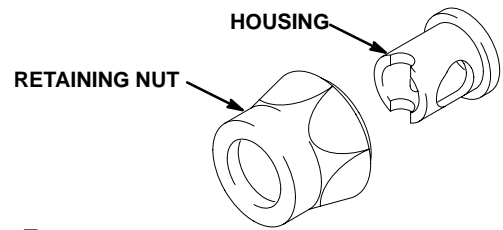

Fig. 7
1. Insert the housing through the back of the retaining nut and pull it forward. See Fig. 7.